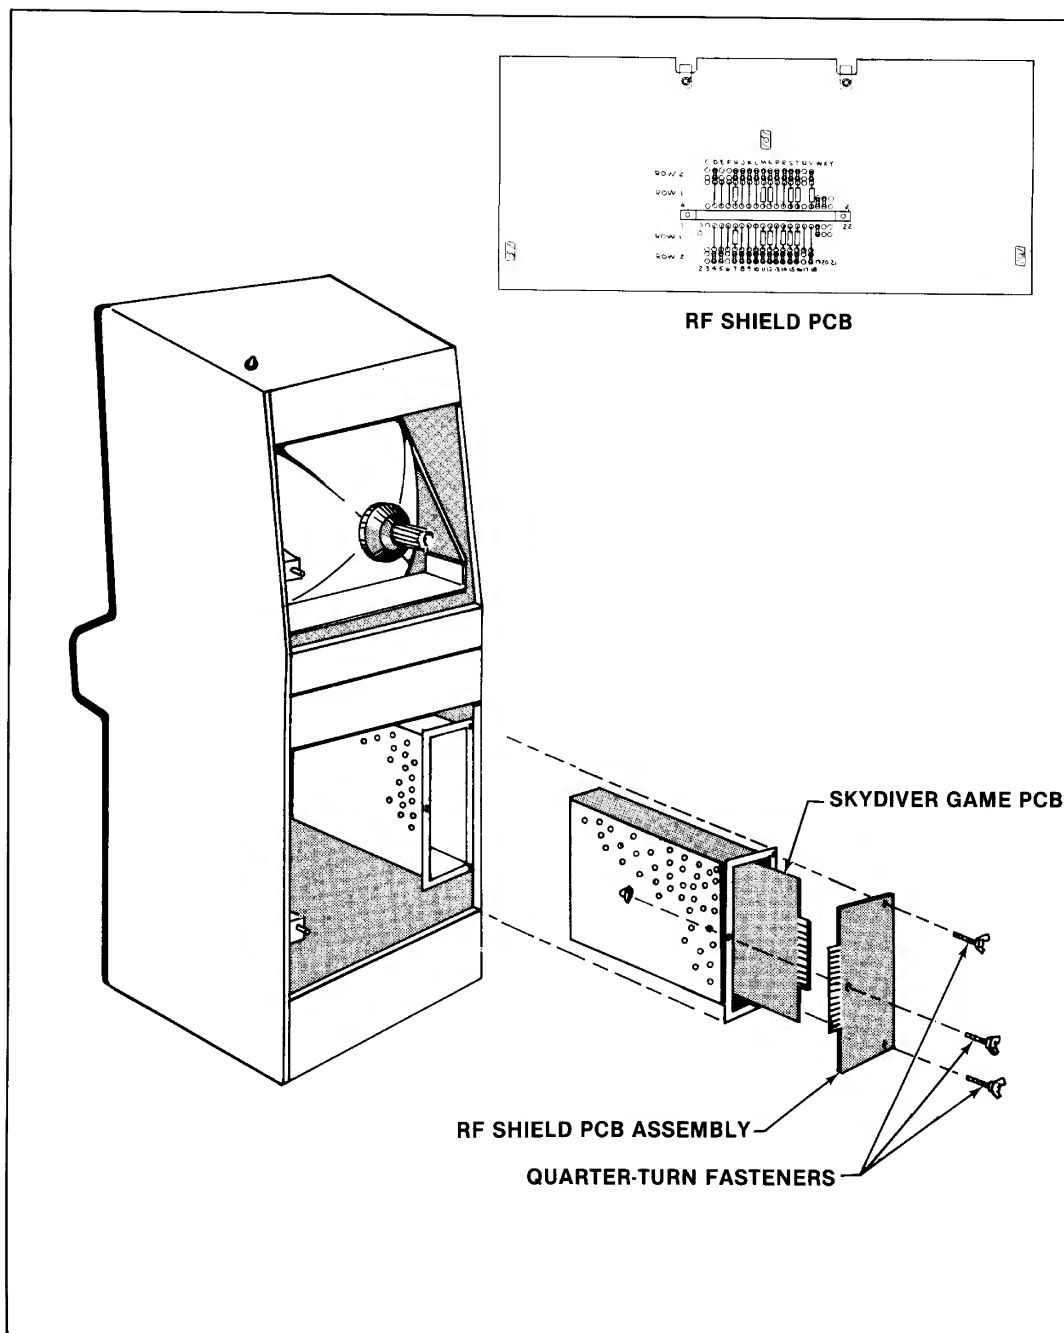

Figure 1-4 Location of RF Shield PCB Assembly
2. Locate the radio frequency (RF) shield assembly immediately inside the cabinet on the right. See Figure 1-4. On one end of the box is a printed circuit board (PCB) with an edge connector coming from the edge of the board.